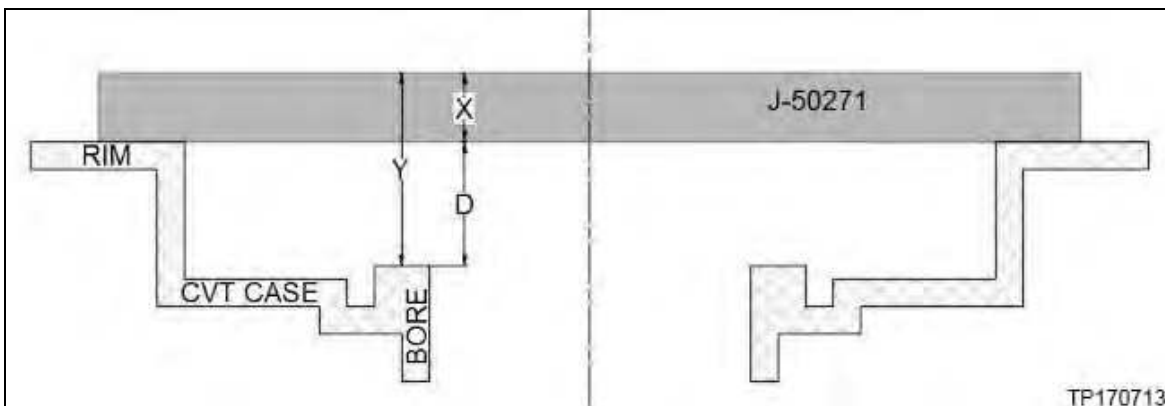

Figure 5M
NOTE: Only if a Gauge Block (J-50271) is not available, measurement "X" (Figure 5M, page 54) will need to be determined for the measuring bar being used. This can be done either with a set of calipers or with Digital Depth Gauge (J-50272).
8. Measure the average distance (**Y**) shown in Figure 5M as follows: